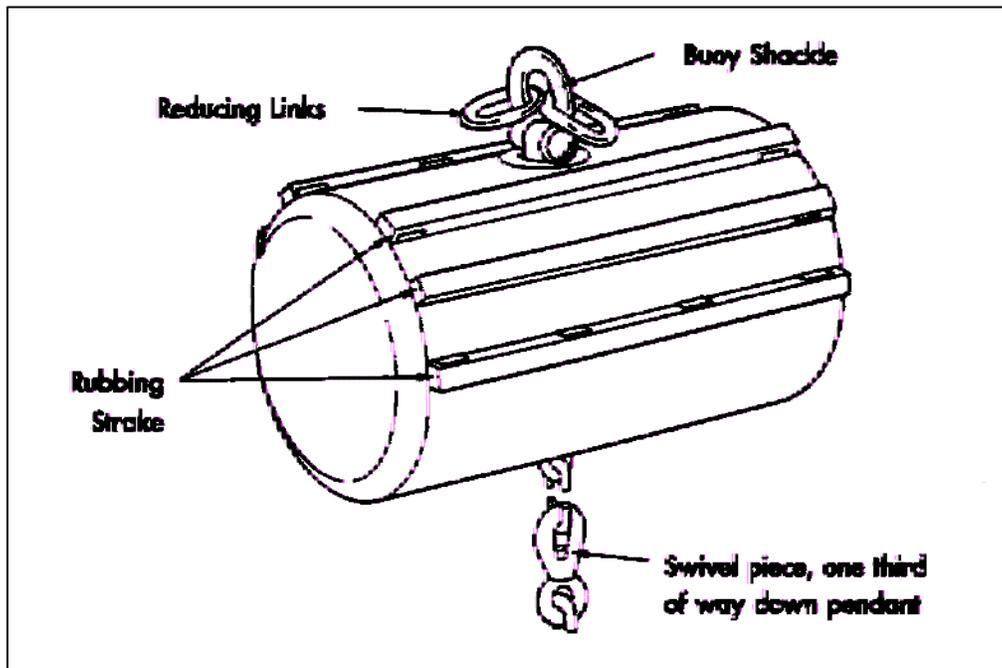

Figure 7.7-1 - Standard Mooring Buoy
- c. The purpose of the mooring buoy, as shown in figure 7.7-1, is to support the weight of the riser pendant. It is usually cylindrical in shape and constructed of steel. It is divided into watertight compartments. The riser pendant passes up through a central trunk in the buoy and is attached to a large external ring or buoy shackle. Smaller reducing links are fitted to the buoy shackle to accommodate the ship-to-buoy shackle.